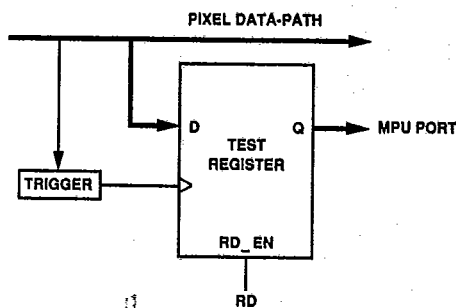
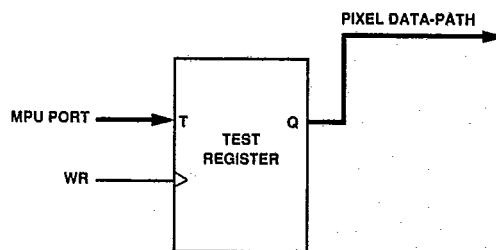

Figure 13.
Figure 14.
**Normal Chip Operation.** In this mode, the test registers are configured as in Figure 13. Both the pixel test register and the DAC test register are triggered every clock cycle. This is transparent to the general user. It becomes useful when there is
**Pixel Data-Path Trigger.** In this mode, the test register trigger is activated by a transition on the R7 bit of the pixel port, Figure 13. Bit 0 of command register 2 controls whether the trigger is activated by a rising edge or a falling edge of R7. The trigger bit is piped through the chip along with the pixel data. This means that each test register captures the pixel with the transition on R7 as it is piped through the chip. Once the data has been captured, it can be read out at any time, even if the pattern is cyclical with the same pixel repeatedly activating the trigger.
**RAM Fast-Port Test.** In this mode, the pixel test register is configured as in Figure 13, and the DAC test register configured as in Figure 14. The DAC test register is triggered every clock cycle. Data written into the pixel test register enters the fast data path, passes through the palette, and gets captured at the DAC test register.
**DAC Test.** In this mode, the DAC test register and the SYNC, BLANK & PLL test register are configured as in Figure 14. Data written to the DAC test register, and the SYNC, BLANK and PLL test register is reflected at the DAC outputs. This allows the DACs to be tested over the microport.